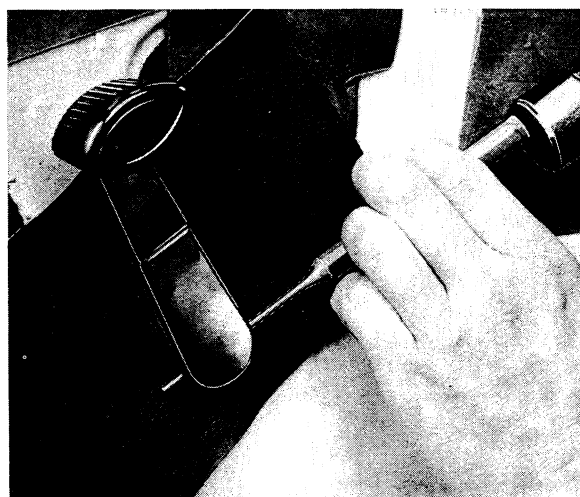

Fig. 8-11. Removing inside lock handle
6. Release the inside door opener by tapping out the pin with a suitable drift (see Fig. 8-11).